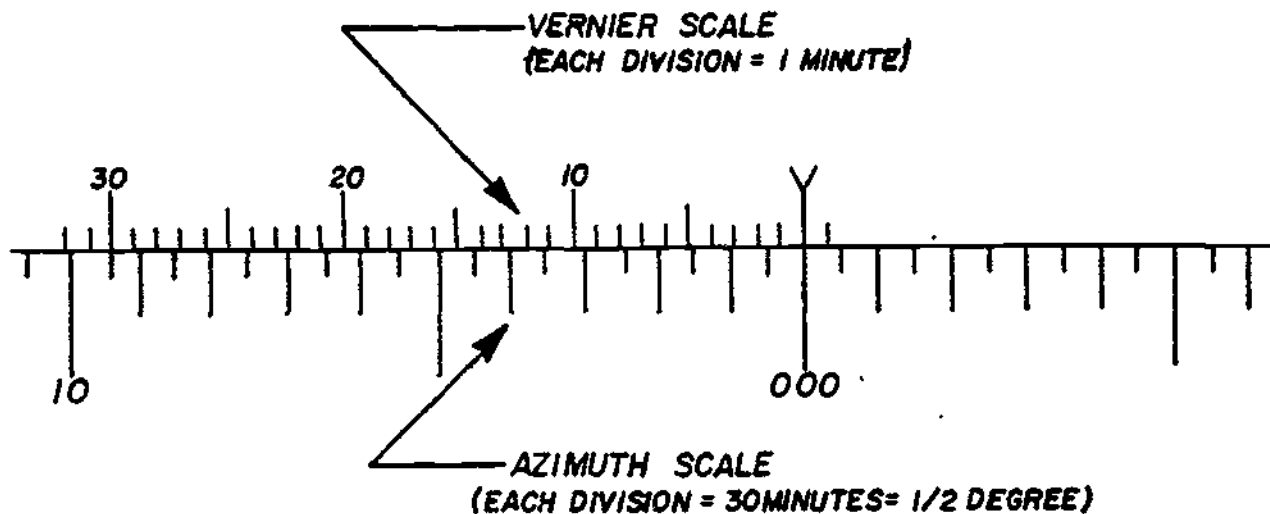

Figure 1.
Refer to figure 1 below. All headings on the azimuth scale are referenced to the index (Y) on the vernier scale. The heading on the azimuth scale below is exactly 000° or 360°. The first division to the right of 000 degrees is 30 minutes less than 360 degrees and of course the first division to the left is 30 minutes more than 000 degrees.